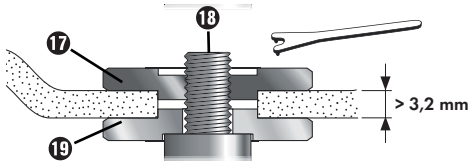

Fig. 2
**With thick grinding discs (see fig. 2):**